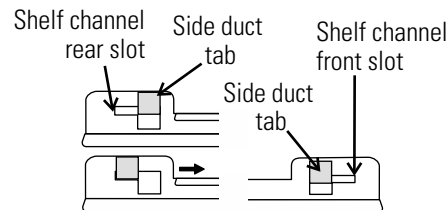

Figure 1-8. Channel Ends
3. Install the shelf channels by placing the channel's rear slot over the appropriate rear tab on the shelf support. Pull the shelf channel forward and engage the channel's front slot into the shelf support's appropriate forward tab (Figure 1-8). Note that if a shelf is installed in any of the bottom 3 rows of side duct tabs that it will need to be removed to take out the humidity pan to clean and add water.